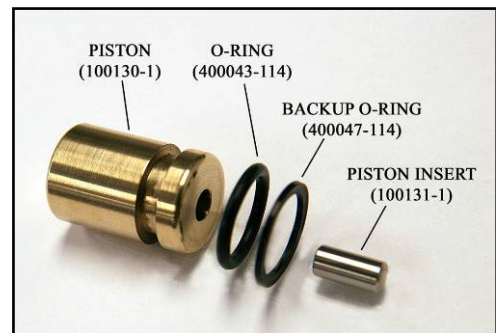

FIGURE 4
15. Install the O-Ring (400043-114) and Backup O-Ring (400047-114) onto the Piston (100130-1) in the order shown. Slide the Piston Insert (100131-1) into the Piston until seated. **See Figure 4 and 5.**